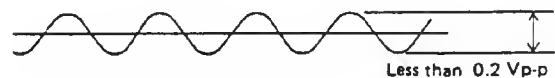

Fig. 6
- 1) Adjust VR7 to minimize waveform amplitude. See fig. 6.